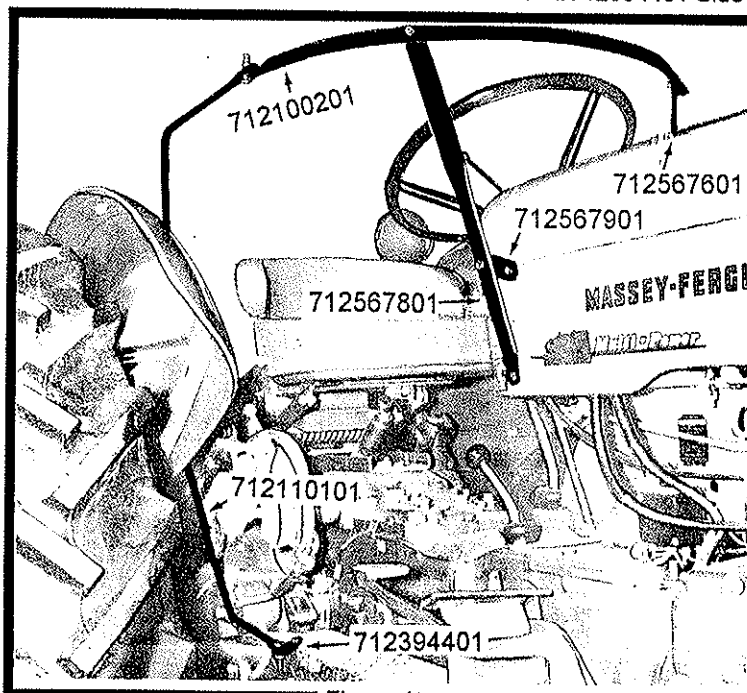
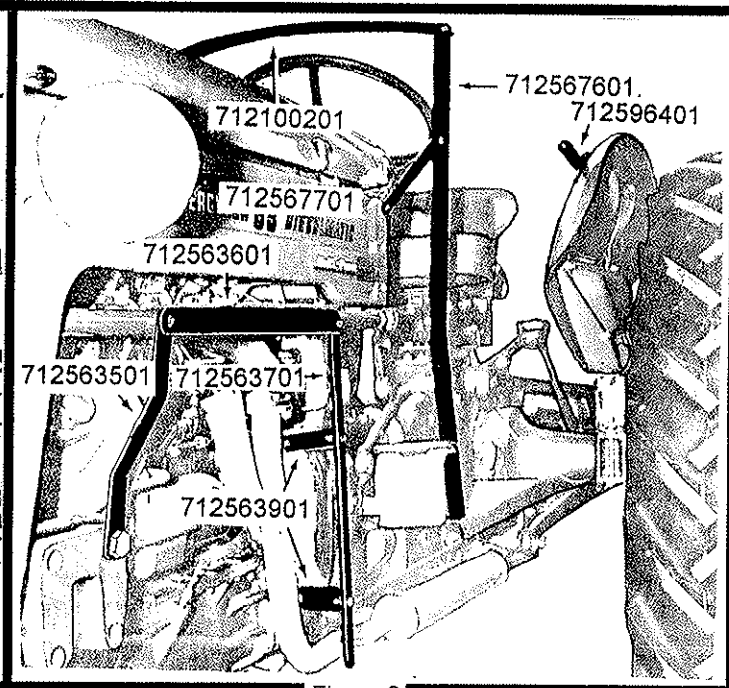

Figure 1
Figure 2
NOTE: For Gas models bolt exhaust guard parts on right side in same manner as for Diesel. See Figure 2.
1. Attach the exhaust guard as follows: (See Figure 2)
- A. Bolt the two (2) #712563901 exhaust guard brackets to #71256370 rear exhaust guard. Next bolt this assembly to the tractor using the bolts located in the clutch housing.
2. Remove top and bottom bolts holding right rear side of hood and bolt #712567801 right yoke support and #712567901 right yoke brace using 1/4" x 1" hex bolts. See Figure 1.
3. Bolt the #712394401 side arm brace to step. See Figure 1.
4. Bolt #712567601 door post to left step. Remove bolt in top rear of hood and fasten #712567701 door post brace to hood using 1/4" x 1" bolt. See Figure 2.
5. Thread the side arm through the right rear hem of vinyl and the yoke in hem at top of vinyl. Place cover over tractor sliding the door post into the left rear hem. Fasten the door post brace to the door post. See Figures 2 and 3.
6. Fasten right side of yoke to right yoke support and side arm. Fasten side arm to side arm brace. See Figure 1.
9. Install #712596401 door latch on left fender. See Figure 2.